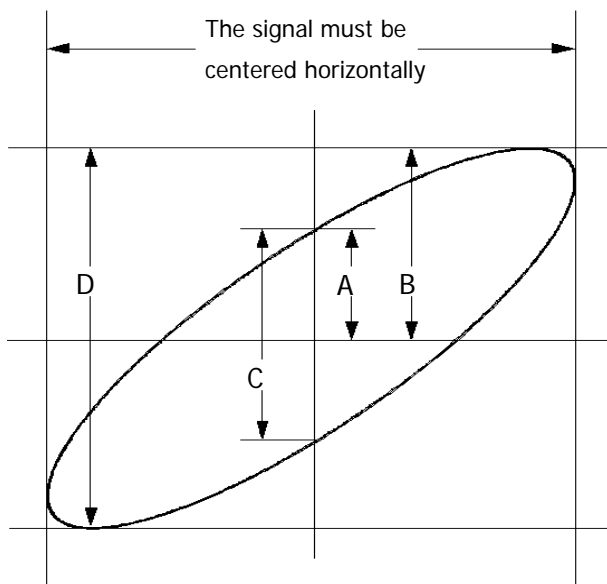

Figure 3-2 Measurement Schematic Diagram of Phase Deviation
4. Observe the measurement result shown in the figure above. According to the measurement schematic diagram of the phase deviation (as shown in Figure 3-2),  $A/B$  ( $C/D$ ) = 1. Thus, the phase deviation angle  $\theta = \pm \arcsin 1 = 90^\circ$ .